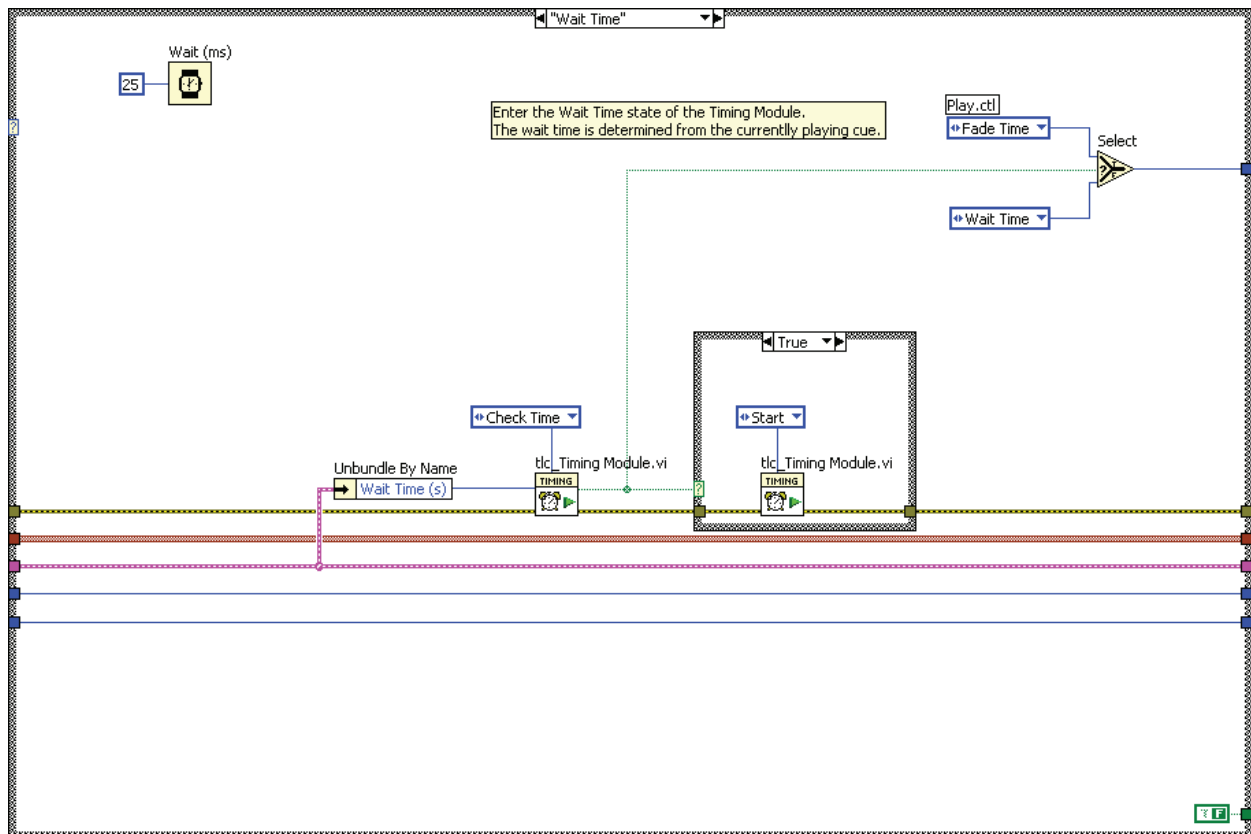

Figure 7-16. Play Module Wait Time Case
3. Modify the Wait Time state in the `tlc_Play` VI to use the `tlc_Timing` Module functional global variable to control the timing, as shown in Figure 7-16. Use the following items:
- Right-click the **Timer Command** input of each instance of the `tlc_Timing` Module VI and select **Create»Constant**. Set each constant as shown in Figure 7-16.